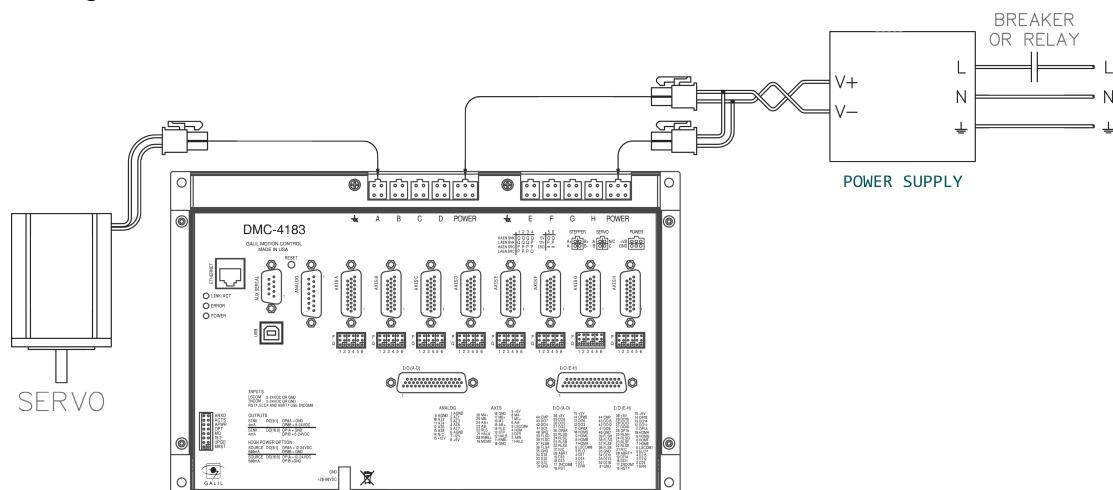

Figure 2.7: Wiring for DMC-4183 with Amplifiers
**NOTE:** Any E-Stop or Disconnect switches should be installed on the AC input to the DC power supply. Relays and/or other switches should not be installed on the DC line between the Galil and the Power supply. This is shown in Figure 2.7 with a DMC-4183 and 2 AMP-43040's.